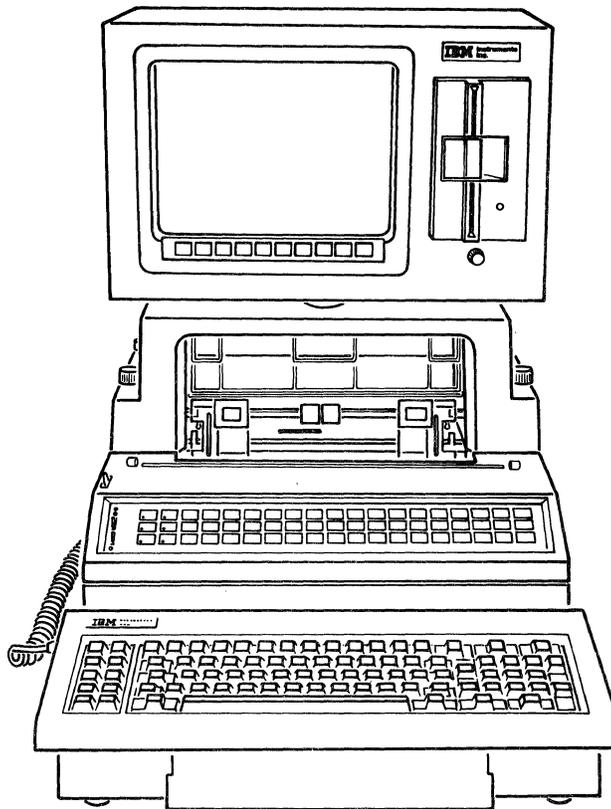
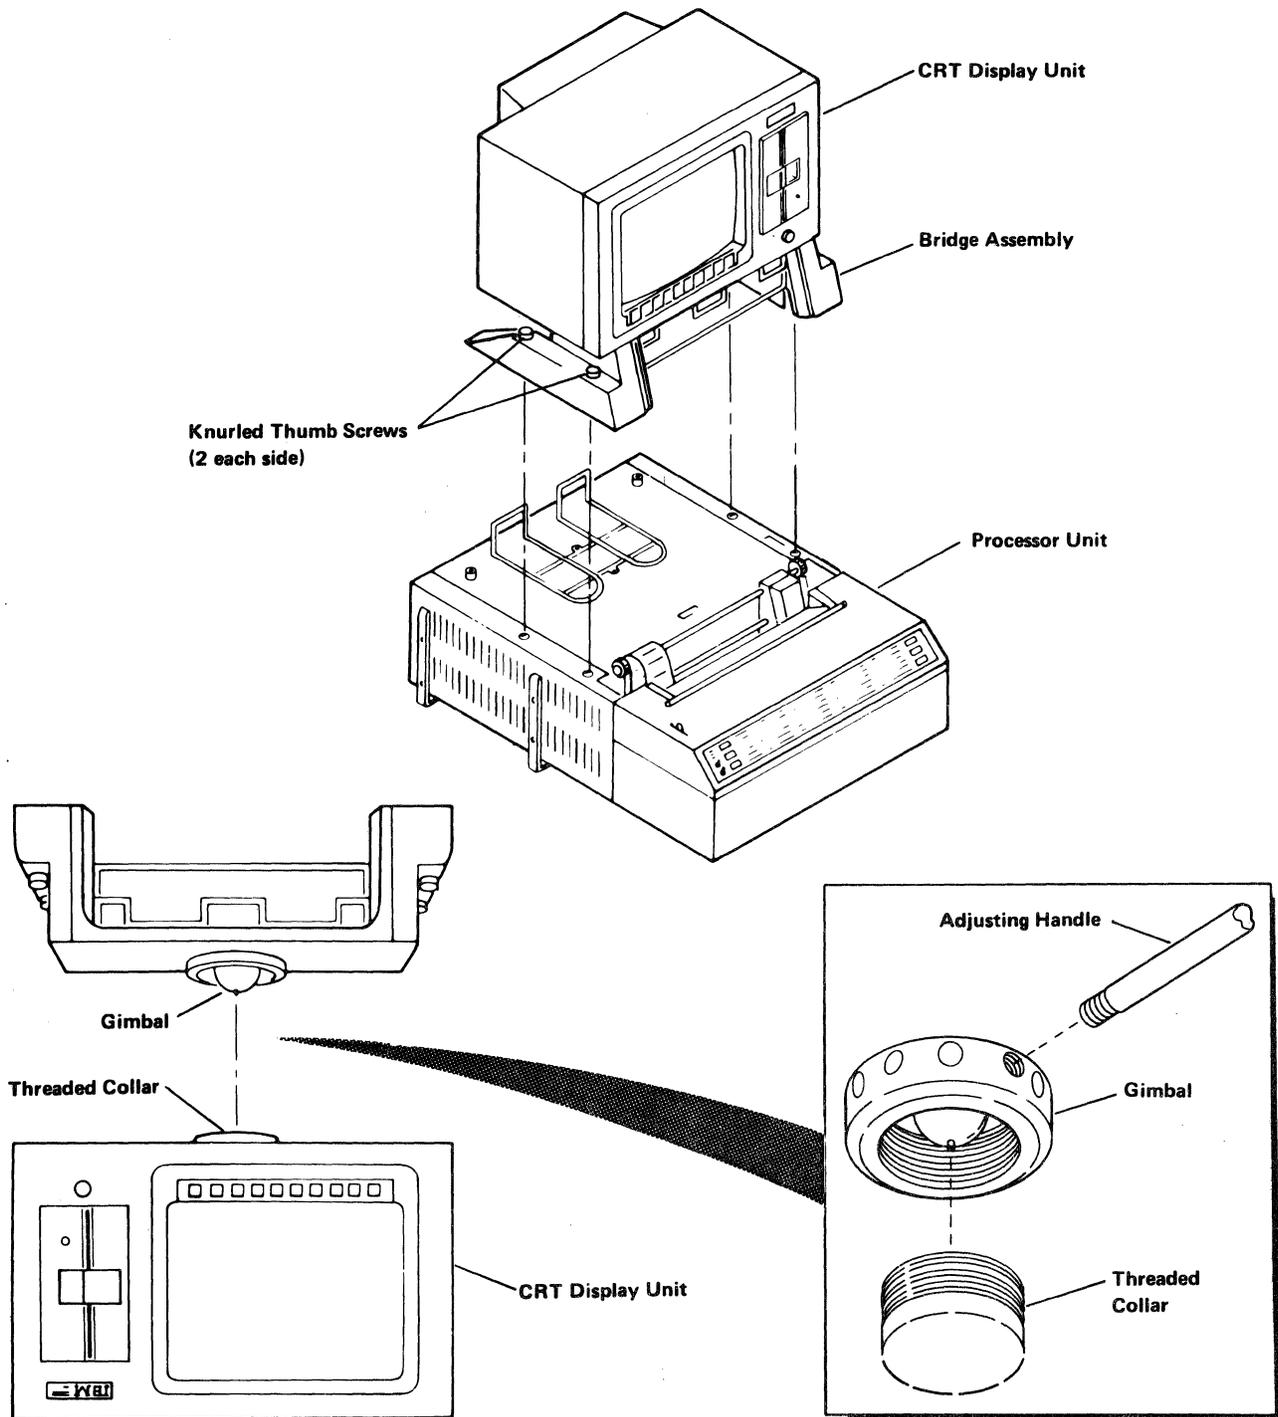

Figure 4-23. Computer System With Printer/Plotter.
Figure 4-24. CRT Display Unit Mounting.
For Computer Systems equipped with a printer/plotter, the CRT display unit is mounted on a bridge mount assembly above the processor unit (See Figure 4-23). In both cases, the CRT display unit is attached with a threaded collar on a gimbal (as shown in the inset of Figure 4-24).
3. Remove the CRT display unit and bridge assembly by loosening the four (4) knurled thumb screws and lifting the entire assembly up and off the processor unit. Place the entire assembly upside down on a flat surface (See Figure 4-24).
1. Place the new CRT display unit upside down on a flat surface (See Figure 4-24).
NOTE: The threaded collar shown in the inset of Figure 4-24 is attached to the CRT housing. This is shown this way for clarity only. Do not disconnect the collar from the CRT housing.
17. Disconnect the keypad connector at the keypad printed circuit board in the top cover and separate the cable from the printer/plotter (See Figure 4-23).